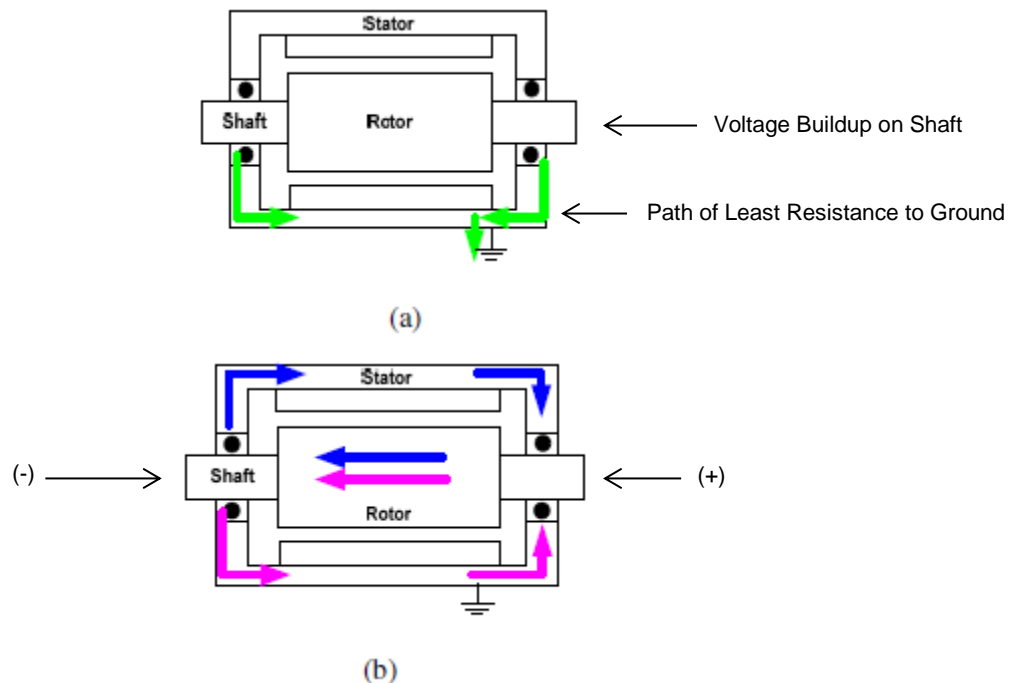

Figure 1. (a) Current Flow from Shaft to Ground (b) Circulating Current Flow in Motor [1]
- 1.) Cause current to flow directly from the shaft, through a bearing, then through the motor or load frame and then into ground as shown in Fig. 1 (a).
- 2.) Cause current to circulate from one side of the shaft, through a bearing, through the motor frame, back into the opposite bearing, and then back into the shaft as shown in Fig. 1 (b).